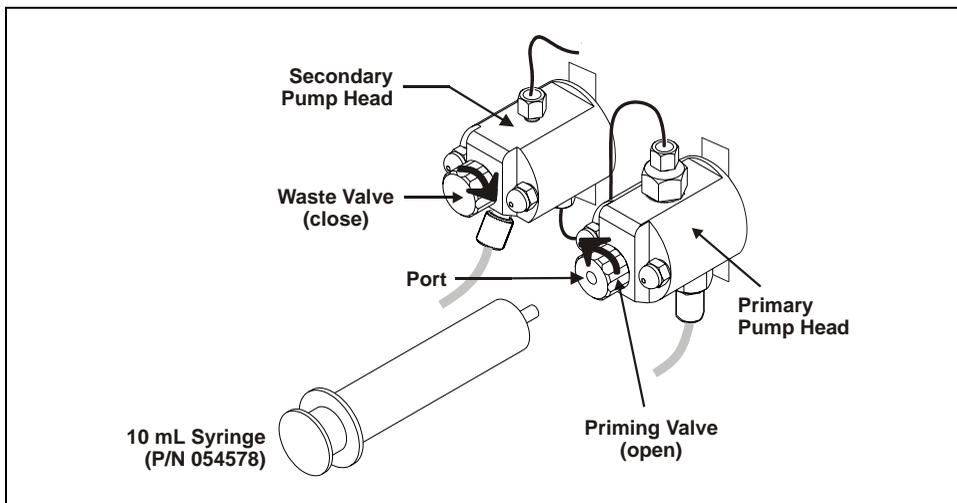

Figure B-36. Priming the Eluent Lines
2. Connect a 10 mL syringe (P/N 054578) to the port in the priming valve on the primary pump head (see Figure B-36).